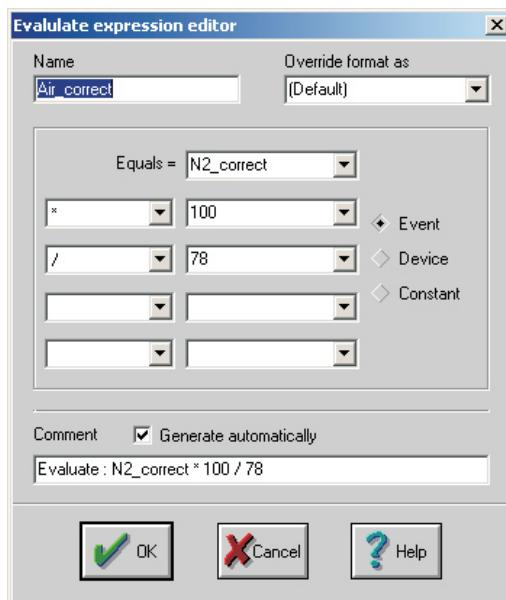

Figure 68 Evaluate expression editor, Air_correct
62. Right-click the **Ar_correct** event, click **Evaluate event** and enter the information for the Air_correct event. See Figures 68 and 69.